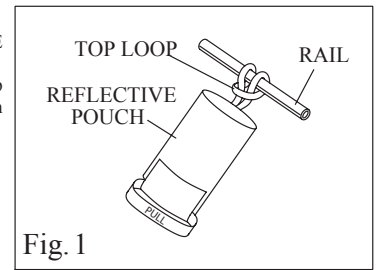

Fig. 1
- First, feed the TOP LOOP of the RESCUE STEPS™ through a cleat, or wrap the loop around a railing, or other vessel component, then pull the RESCUE STEPS™ pouch through the loop. (See FIG. 1)